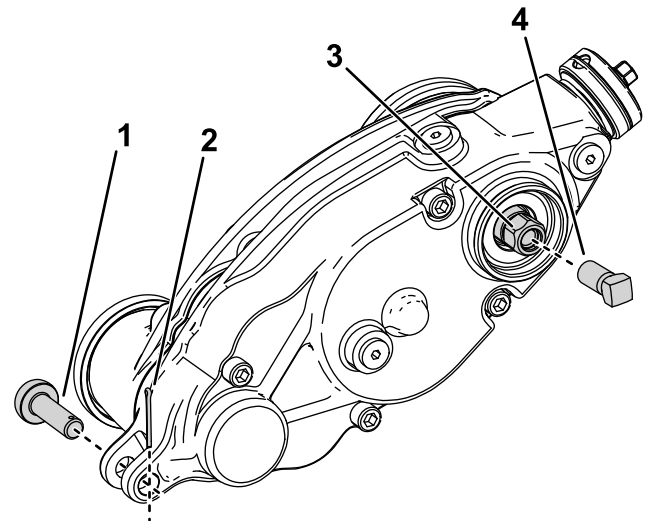

Figure 25
5. Install the reinforcement screw (Part No. 1-803022—sold separately) to the internal threads of the groomer drive hex head and torque to 13.5 N·m (120 in-lbs) as shown in Figure 25.
6. Remove the groomer drive box from the cutting reel by turning the groomer drive hex-head (Figure 25).